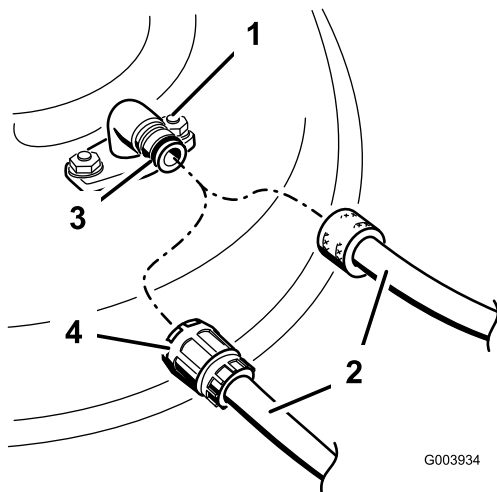

Figure 72
3. Attach the hose coupling to the end of the mower washout fitting, and turn the water on high (Figure 72).